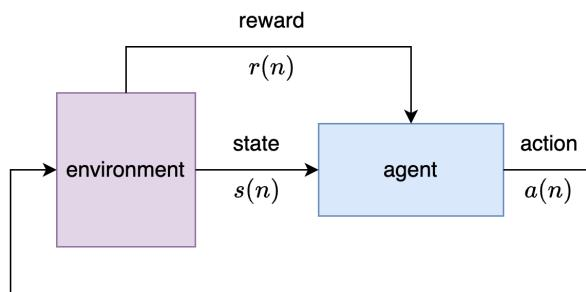

Figure 4.1: Reinforcement learning principle
Reinforcement Learning (RL) is a branch of machine learning concerned with how agents take actions in an environment to maximize cumulative reward. Unlike supervised learning, where the agent learns from a labeled dataset, RL focuses on trial-and-error interactions, as shown on figure 4.1. The agent observes the state of the environment, selects actions according to a policy, and receives feedback in the form of rewards. Over time, the agent aims to learn an optimal policy that maximizes the total long-term reward by balancing exploration (trying new actions) and exploitation (choosing known high-reward actions). Key concepts in RL include states, actions, rewards, policies, and value functions. RL has been successfully applied in areas such as robotics, game playing, and autonomous systems, where decision-making under uncertainty is crucial.